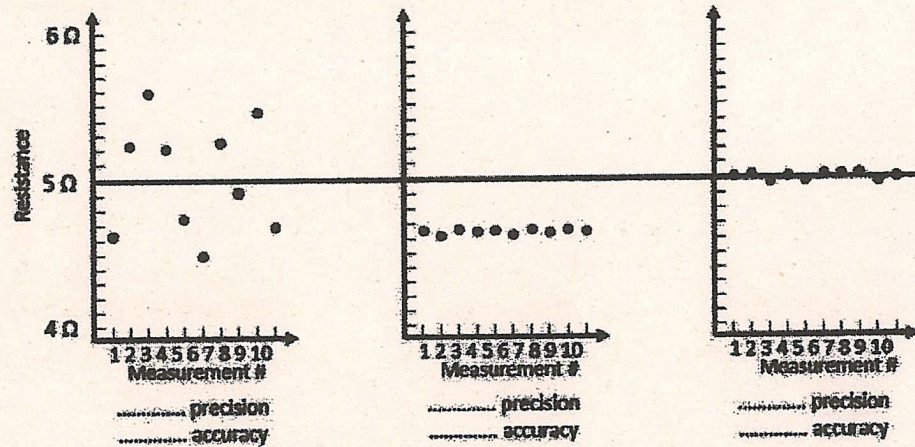

Figure Q3(b)
- II. Readings obtained for the measurement of a 5Ω resistor with 3 different multimeters is shown in Figure Q3(b) below. Fill in the blanks with the correct word High/ Low.